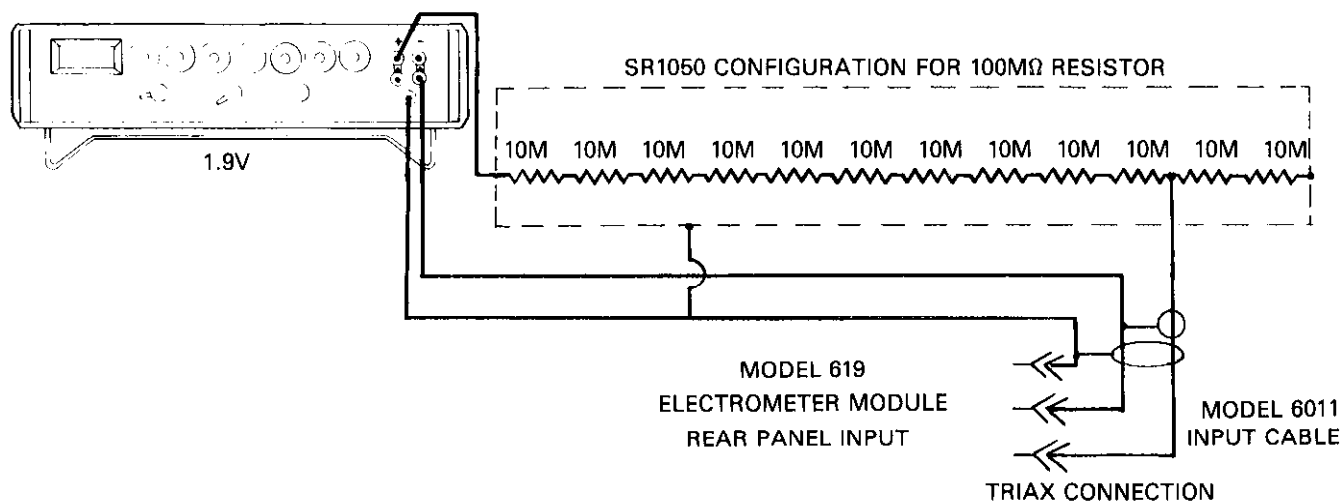

Figure 6-6. Range Calibration, 20nA
9. 20nA Range Calibration: Zero Check the Model 619 and downrange to the 20nA range. Apply +19.000nA to the input of the Model 619, release the Zero Check and adjust R654 for a display reading of +19.000 -9 to within  $\pm 2$  counts. Refer to Figure 6-6.